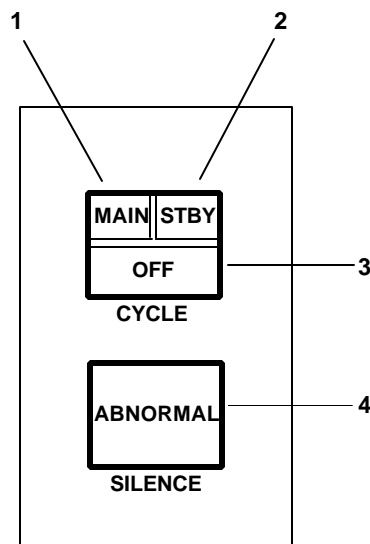

FIG 1-2
The GRN-21 remote control indicator (Fig 1-1) permits air traffic control personnel to monitor and determine the operating status of the AN/GRN-27 SSILS. The remote control indicator provides the status of the primary functional groups of the localizer, glideslope and up to three marker beacon stations. It also provides voice communications and localizer identification with various components of the SSILS via a telephone handset. To initiate a call, lift the handset from its cradle and press the desired station select switch. To reset the intercom, put the handset back in the cradle. An incoming call is signaled by a tone over the speaker. To receive a calls lift the handset from its cradle and answer the call. The ILS station calling is indicated by the lighted station select switch. The transmitter status is automatically displayed by the status lamps contained in the cycle buttons which are three color, three window, push button lighted switches (Fig 1-2). Pressing the cycle buttons causes the on site control circuitry to advance one step in the following sequence: Main, off, standby, off, main, etc. (to change fKom one sequence to the next e. g. main to off, the cycle button must first be depressed for approximately 8 seconds, 25 seconds must elapse before initiating the next cycle action). An aural alarm and abnormal light always accompany a status change. The alarm may be silenced by pressing the abnormal silence button.
a. If the warning buzzer is activated and the (Yellow) "Abnormal" light (4, Fig 1-2) illuminates, silence the warning buzzer by pressing the illuminated (Yellow) "Abnormal" button(s).
b. If the (Green) "Main" (1, Fig 1-2) window of the cycle button(s) goes out and comes back on or remains on after receiving an "Abnormal" light, leave the unit in operation and notify job/maintenance control.
c. If the (Amber) "STBY" (2, Fig 1-2) window of the cycle button(s) is illuminated after receiving an "Abnormal" light, leave the unit in operation and notify job/maintenance control.
(1) If the (Red) "OFF" (3, Fig 1-2) window of the cycle button illuminates wait 30 seconds for the unit to transfer itself to (Amber) STBY (2, Fig 1-2). If this occurs, notify job/maintenance control of the amber status.
(2) If the unit remains (Red) "OFF" (3, Fig 1-2) notify job/maintenance control that you have an unusable facility and take appropriate NOTAM action.
d. If the (Red) “OFF” (3, Fig 1-2) window of the cycle button illuminates after receiving an “Abnormal” (4, Fig 1-2) light and after waiting 30 seconds, does not transfer itself to “STBY” (2, Fig 1-2) depress the cycle button. If the unit returns to “Main” or “STBY” notify job/maintenance control of action taken. If the unit remains (Red) “OFF” or cycles immediately back to (Red) “OFF” take NOTAM action.
(1) Either “Main” or “STBY” window illuminates, notify job/maintenance control that the ILS control indicator is defective and of any defective bulbs noted during the test.
(2) Neither “Main” or “STBY” window illuminates, take NOTAM action, notify job/maintenance control of the NOTAM action and of any defective bulbs noted during the test.
| Main lamp | Green; lights to indicate main transmitter group in operation. (11, Fig 1-2) |